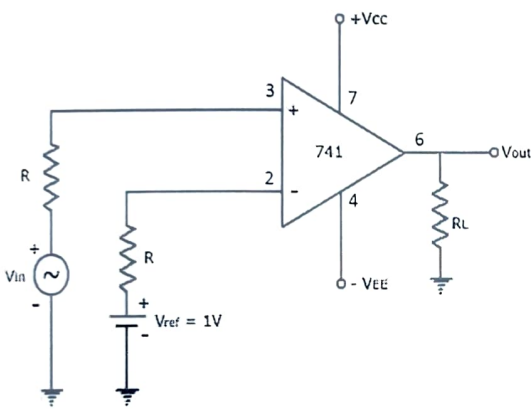
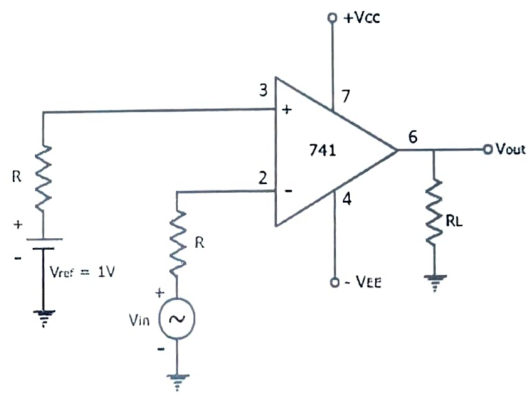

Fig.1 Non-Inverting Comparator Circuit
Fig.2 Inverting Comparator Circuit
Theory: - A fixed reference voltage is applied to (-) input and time varying signal is applied to (+) input as shown in Fig.1. Because of this arrangement, the circuit is called positive or non-inverting comparator. When V_{in} is less than V_{ref} output is at $-V_{sat}$. On other hand when V_{in} is greater than V_{ref} , (+) input becomes positive with respect to (-) input, and output V_o goes to $+V_{sat}$. The comparator is also called voltage level detector because for a desired reference voltage V_{ref} , the voltage level of input V_{in} can be detected. For Fig. 2 write theory in your words.
1. Connect the circuit as shown in Fig. 1